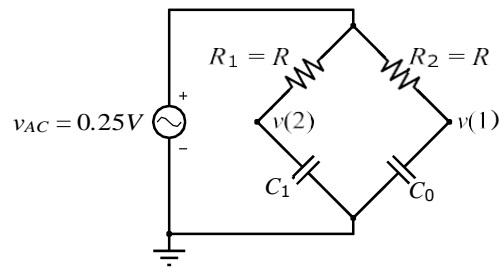
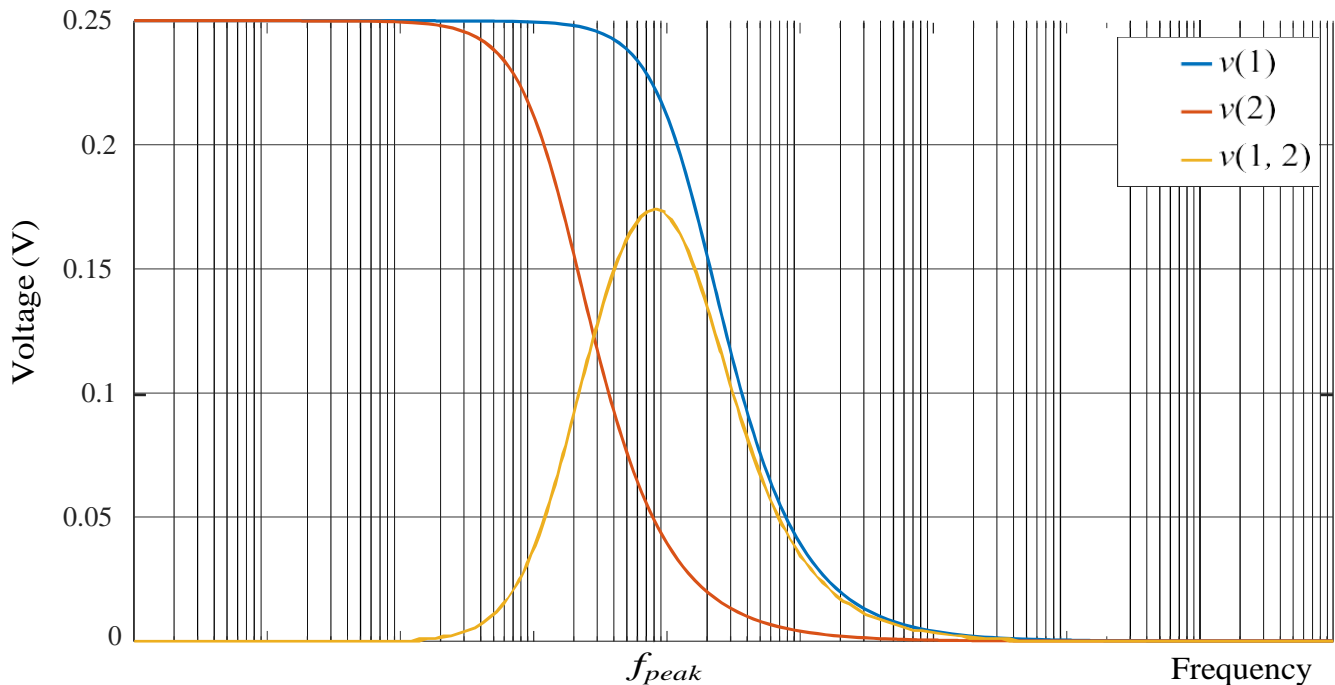

Figure 3: Simple Bridge Circuit
Figure 4: Bridge circuit output voltages as a function of frequency.
**Step 2:** Using your favorite circuit simulator, build the circuit shown in Figure 3. Set the amplitude of the AC voltage source as 0.25V. Set the capacitances  $C_0$  and  $C_1$  with your theoretical values found in Step 1. Select an initial value  $R$  for the resistors  $R_1$  and  $R_2$ . Perform an AC sweep starting from 1Hz to 1GHz with 100 points per decade. When the voltages  $v(1)$ ,  $v(2)$  and  $v(1) - v(2)$  is plotted as a function of frequency, the result is similar to the graph shown in Figure 4.
As can be seen in Figure 4, the differential voltage “ $v(1) - v(2)$ ” reaches its maximum for a specific frequency  $f_{peak}$ . Adjust  $R$  to an appropriate value for  $f_{peak}$  to fall somewhere between 1-10kHz. This is important for the rest of the circuit since every operational amplifier has a limited bandwidth. Fill in the appropriate resistor value  $R$  and the resulting peak-frequency  $f_{peak}$  to the blanks given below.